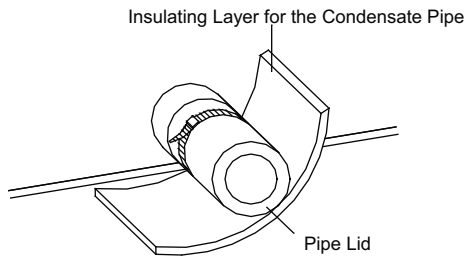

Fig. 59 – Thermal Insulation of the Condensate Pipe
1. The condensate pipe should keep a inclination angle of 5 ~ 10°, to facilitate the drainage of the condensate water. And the joints of the condensate pipe should be insulated by the insulation material to prevent condensing (see Fig. 59).